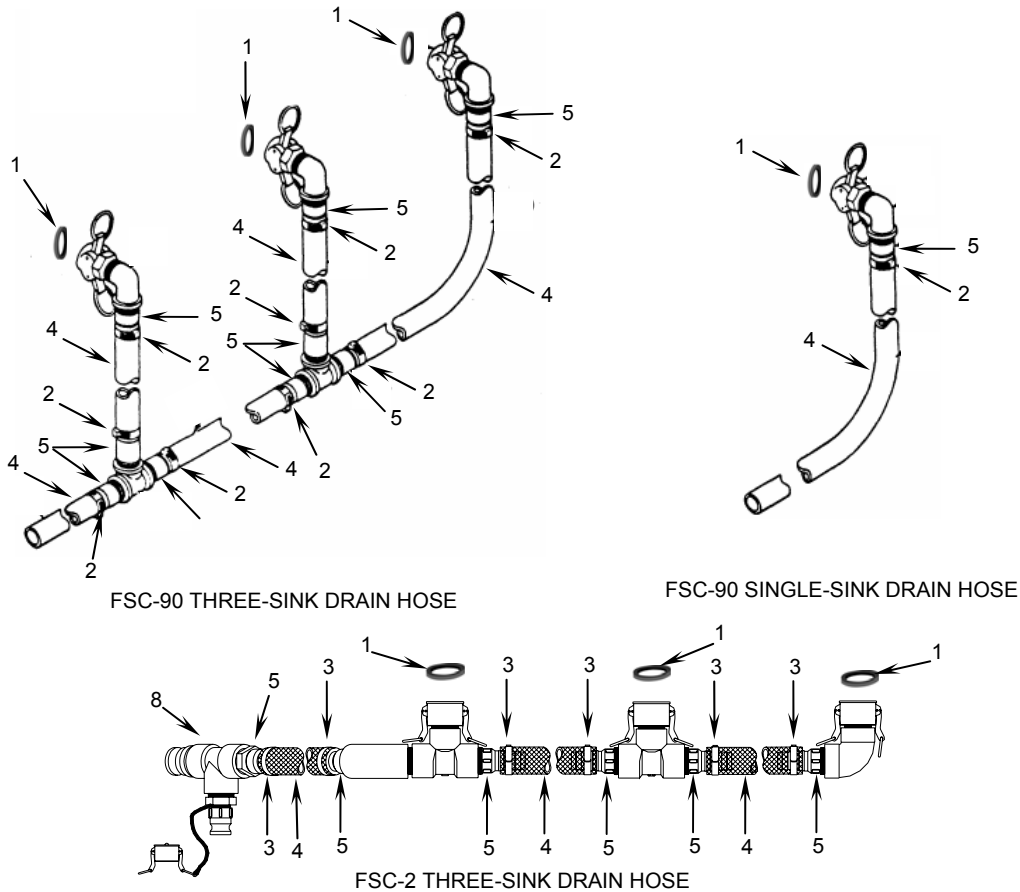

Figure 1. Replacing Sink Drain Hose Gaskets and Hoses.
1. Remove existing gasket (**Figure 1, Item 1**) using a needle-nose pliers.
1. (FSC-90 only) Loosen worm-gear hose clamps (**Figure 1, Item 2**).
2. (FSC-2 only) Remove and discard the crimped-on hose clamps (Figure 1, Item 3).
3. Slide the defective hoses (Figure 1, Item 4) off adapters (Figure 1, Item 5).
6. Slide hose end (Figure 1, Item 4) over adapters (Figure 1, Item 5).